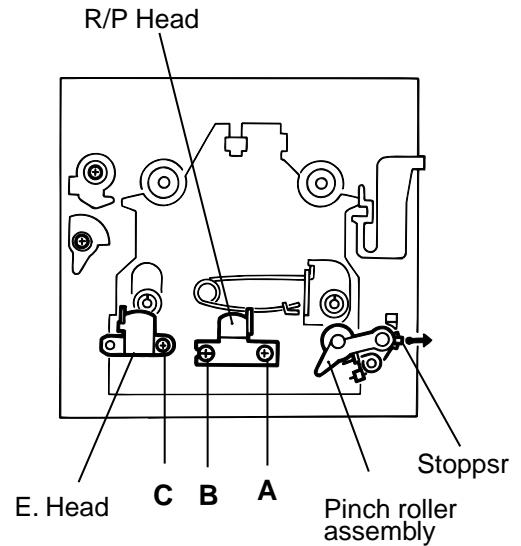
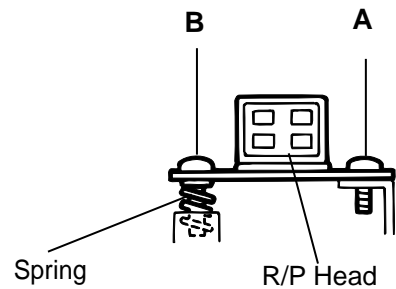

Fig.1
Fig.2
**■ Removing the feed motor. (See Fig.1)**
1. Remove the screw **A** on the right side of the R/P head.(Fig.1, Fig.2)
2. Remove the screw **B** on the left side of the R/P head.(Fig.1, Fig.2)
Remove the screw **C** fixing the erase head.(Fig.1)